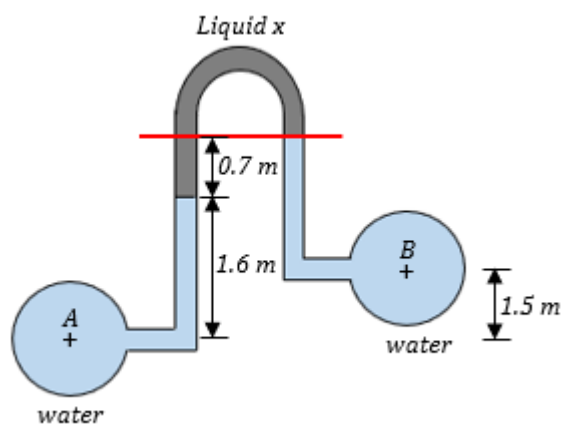

Figure 11
17. A differential manometer assembled on two pipes as figure 11 below. Determine difference between the pressure in A and B if specific gravity of liquid x is 3.1.